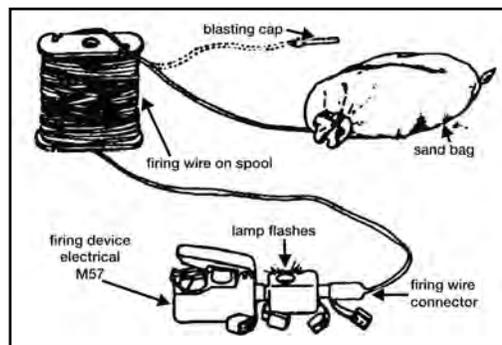

Figure 071-325-4425-3. Circuit test of the M18A1 Claymore mine firing system
g. Plug the connector of the firing wire into the test set (figure 071-325-4425-3).